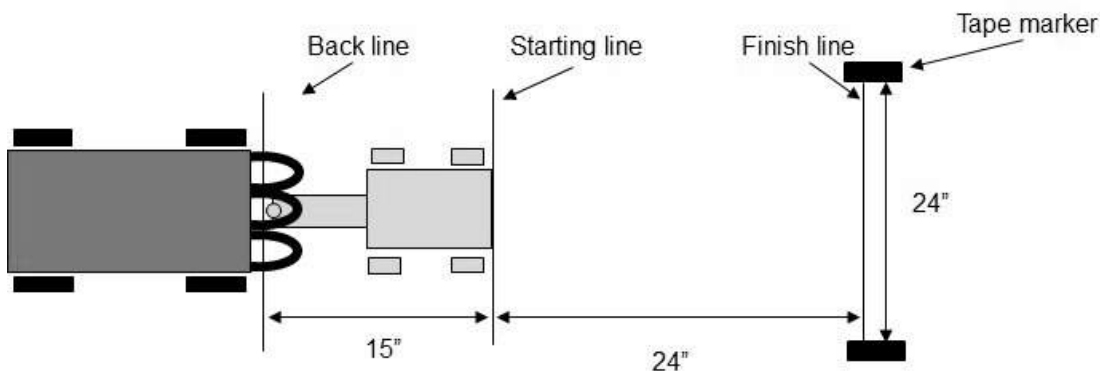
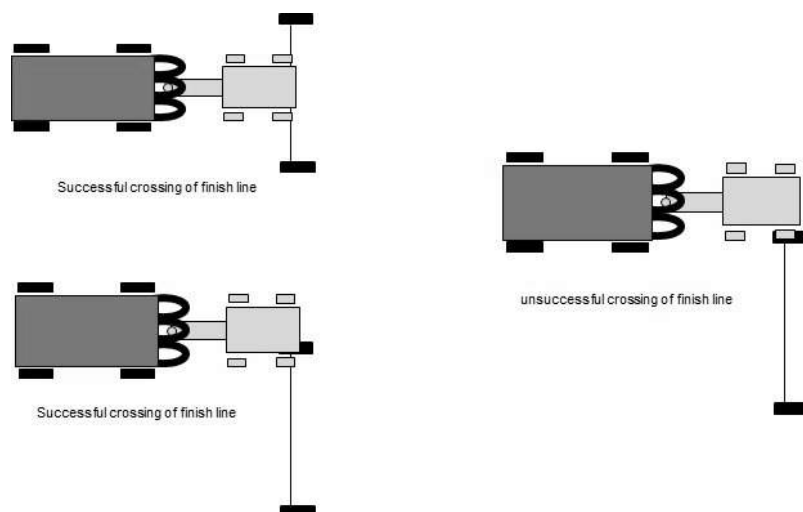

Figure 15 - Strongest Robot Course - Overhead view
Figure 19 - Crossing the finish line
- (1) Robot must be no wider than 15"
- (2) Robot, including cart attachments, must be no longer than 15" at all times during the competition.
- (3) No mechanism may be used to extend the size of the robot either to the sides or the front in order to assist in crossing the finish line. In other words, the robot has to stay the same size throughout the event.
- i) Robot must start between the back line and the start line (total of 15" between the two), (see Figure 15)
- iii) Robot must have some part of its body pass cross the finish line between the two tape markers set 24" apart, (see Figure 15 and Figure 19)